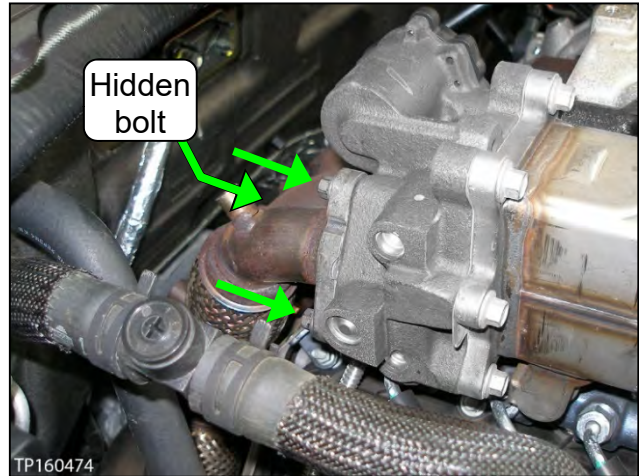

Figure 91
32. Install the three (3) EGR valve inlet pipe bolts (see Figure 91).